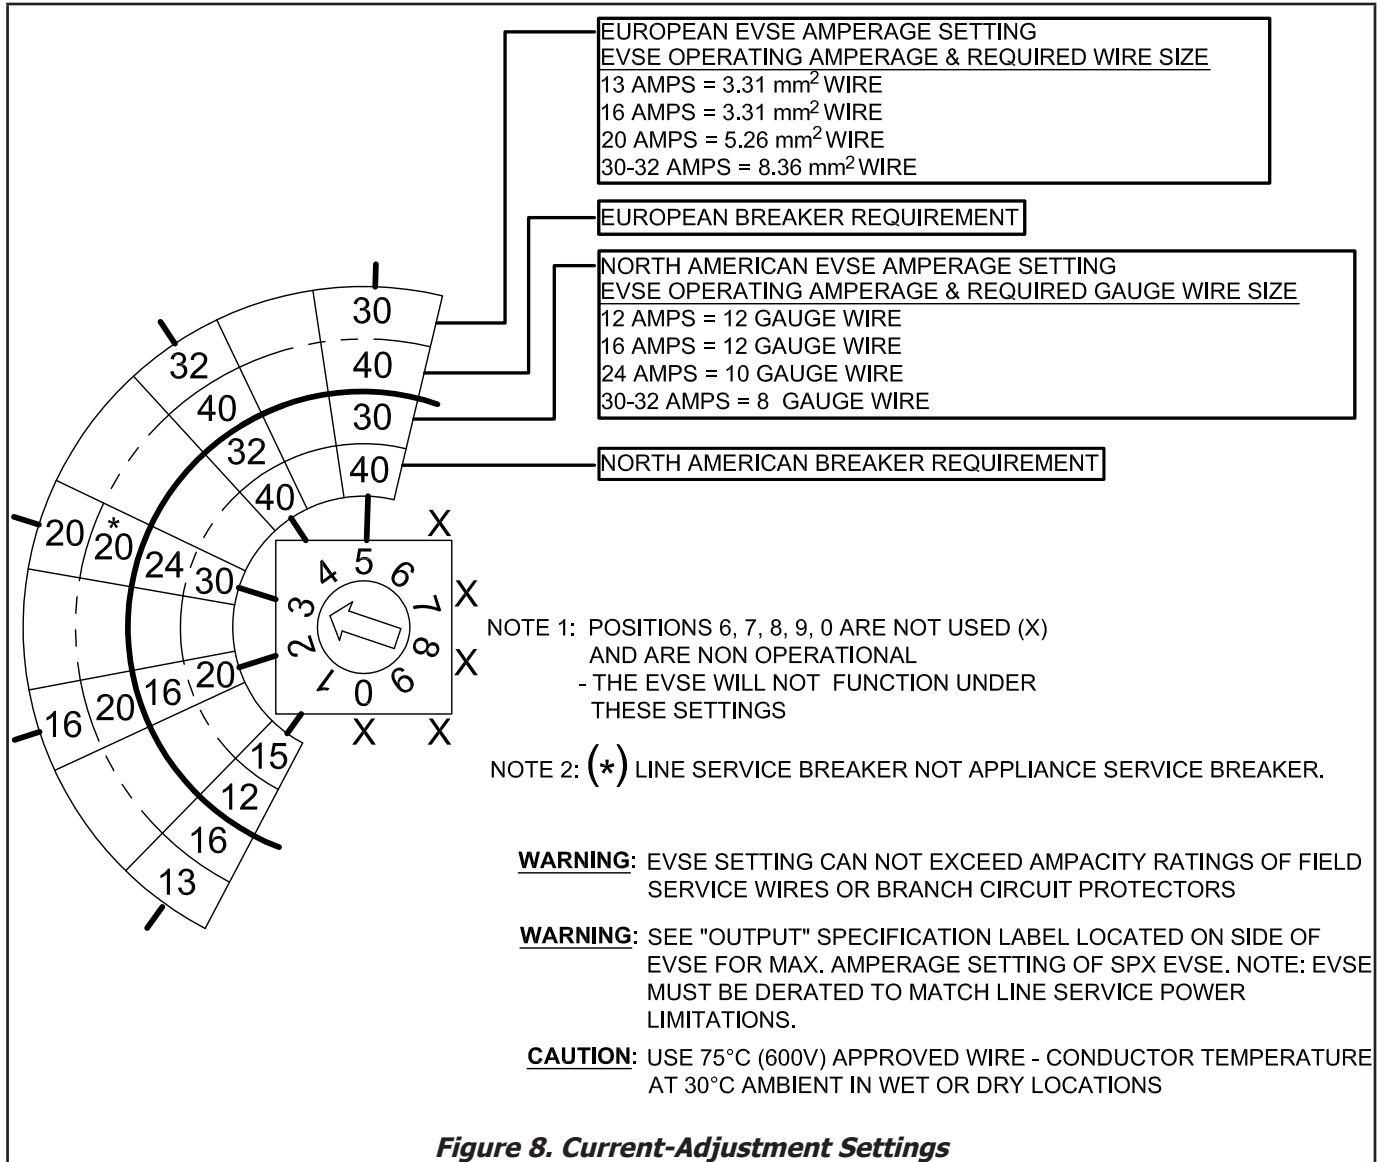

Figure 8. Current-Adjustment Settings
3. Using a small, flat-blade screwdriver, set the current-adjustment selector to the applicable output current-limiting setting as specified in "Figure 8. Current-Adjustment Settings".